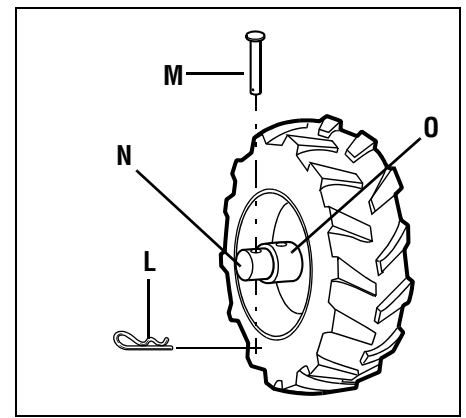

Fig. 2-3: Wheel in FREEWHEEL position
2. Remove the hairpin cotter (L, Fig. 2-3) and wheel drive pin (M) from the wheel hub (O) and wheel shaft (N).
3. Slide the wheel fully inward on the wheel shaft (N, Fig. 2-3). Reinstall the wheel